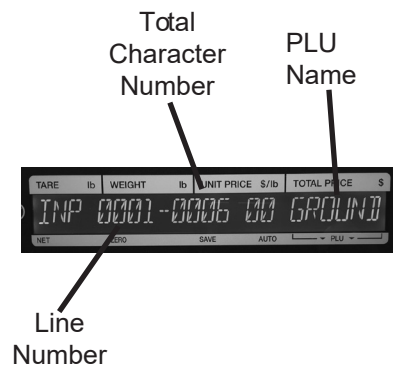

Figure 8-2
9. Use the Scale Set-Up Keysheet to key in the PLU name (24 character maximum per line, 2 line maximum*, e.g. GROUND BEEF, BANANAS). See Figure 8-2.